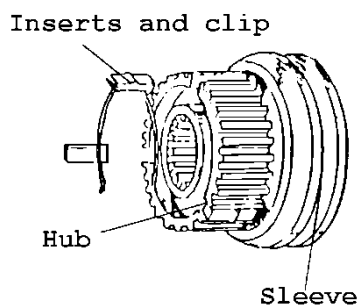

FIG. 12
- Remove the synchronizer sleeve and the inserts from the hub (Fig. 12).